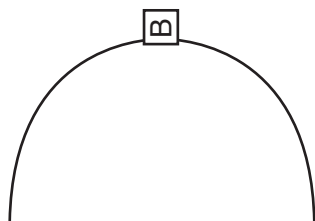

Fig. 2.2
- 2 Each length of 22 swg wire should be labelled B at its centre and then bent into a curve as shown in Fig. 2.2.